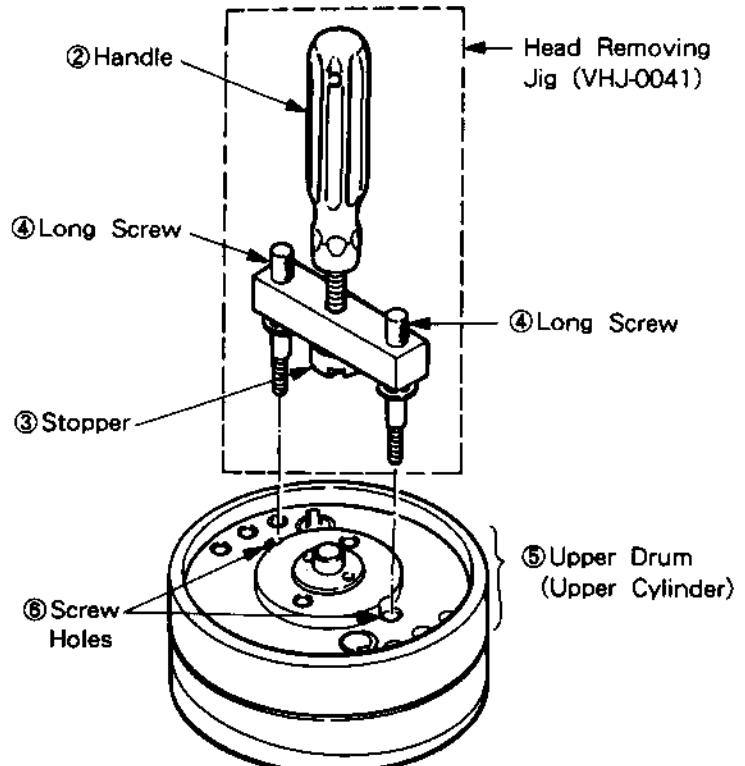

Fig. 2-11-5
- 3) Turn the head removing jig (VHJ-0041) handle ② counterclockwise to lift up the stopper ③. (See Fig. 2-11-5.)
- 4) Insert the two long screws ④ of the jig into the screw holes ⑥ located on the head chip side of the upper drum (UPPER CYLINDER) ⑤, then mount by turning the handle clockwise.
- 5) While holding the jig so that the upper drum ⑤ does not rotate, turn the handle ② clockwise to remove the upper drum.